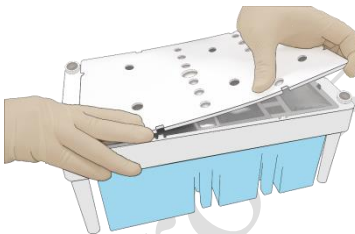
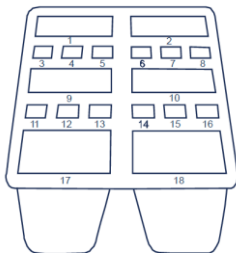

Figure 7-1: Open and clean the kit
Figure 7-2: Well position
- Open the cartridge cover and wipe any water condensation with lint-free paper (see Figure 7-1). Well position is shown in Figure 7-2.
- Pierce the seal at the edge of well No.1 and No.2 (see Figure 7-2) to make a hole around 2 cm in diameter using 1 mL sterile tip (see Figure 7-3):
- Pierce the seal at the edge of well No.1 and No.2 (see Figure 7-2) to make a hole around 2 cm in diameter using 1 mL sterile tip (see Figure 7-8):
- Pierce the seal at the edge of well No.1 and No.2 (see Figure 7-2) to make a hole around 2 cm in diameter using 1 mL sterile tip (see Figure 7-12):